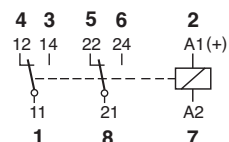

Fig. 1 AC voltage endurance
1,7 mm**Fig. 1 AC voltage endurance****Fig. 2 DC load limit curve****Dimensions [mm]****Technical approvals, conformities**
Max. AC load (Fig 1)	2,5 kVA
**Connection diagram****Fig. 1 AC voltage endurance****Fig. 2 DC load limit curve****Dimensions [mm]****Technical approvals, conformities**